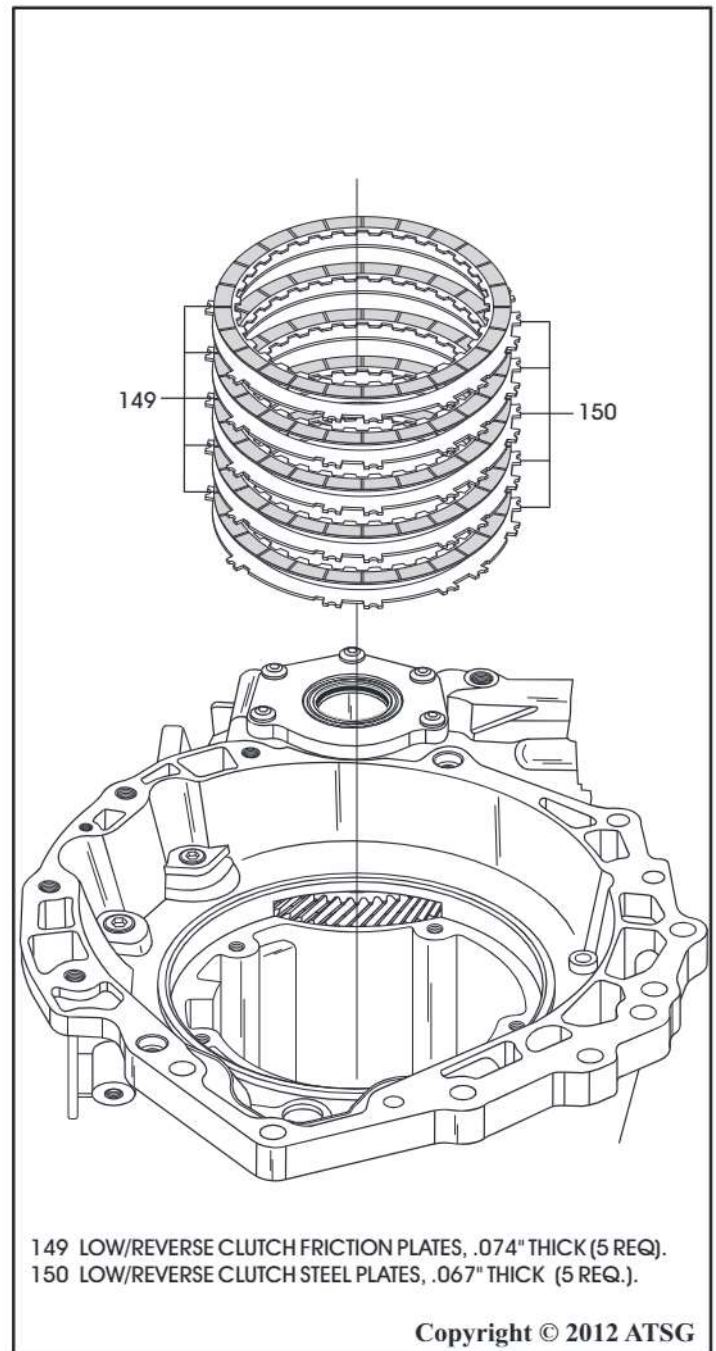

Figure 70
58. Remove the low/reverse clutch plates from the case, as shown in Figure 70.